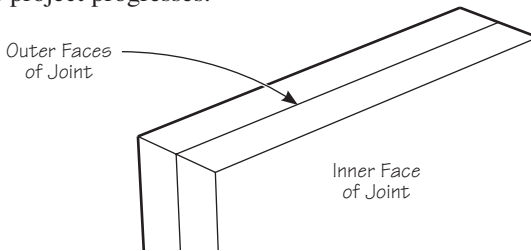

Figure 4: Place boards face to face, carefully aligned for layout. You might want to clamp them together to ensure they don't move.
2. Place the two workpieces to be joined outer face to outer face, as shown in **Figure 4**. Marking each piece and identifying the outer faces will help as your project progresses.